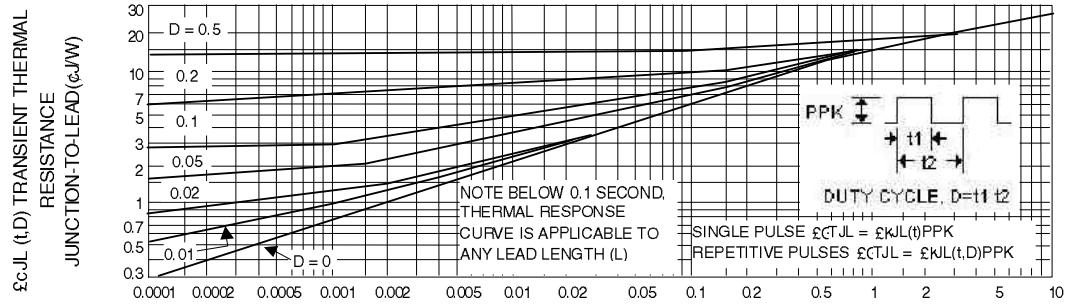
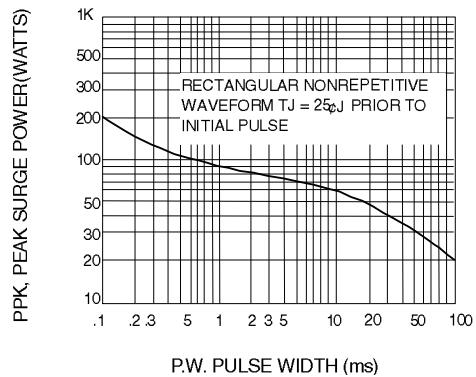
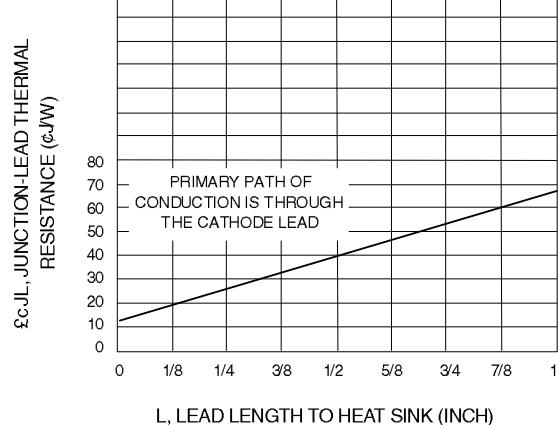

Fig. 2-TYPICAL THERMAL RESPONSE L,
Fig. 3-MAXIMUM SURGE POWER
Fig. 10-TYPICAL THERMAL RESISTANCE
4. SURGE CURRENT (I_r) NON-REPETITIVE - The rating listed in the electrical characteristics table is maximum peak, non-repetitive, reverse surge current of 1/2 square wave or equivalent sine wave pulse of 1/120 second duration superimposed on the test current, I_{zT} , per JEDEC standards, however, actual device capability is as described in Figure 3.
$\frac{\Delta T}{\Delta P}$ is the increase in junction temperature above the lead temperature and may be found from Figure 2 for a train of power pulses or from Figure 10 for dc power.
Data of Figure 2 should not be used to compute surge capability. Surge limitations are given in Figure 3. They are lower than would be expected by considering only junction temperature, as current crowding effects cause temperatures to be extremely high in small spots resulting in device degradation should the limits of Figure 3 be exceeded.